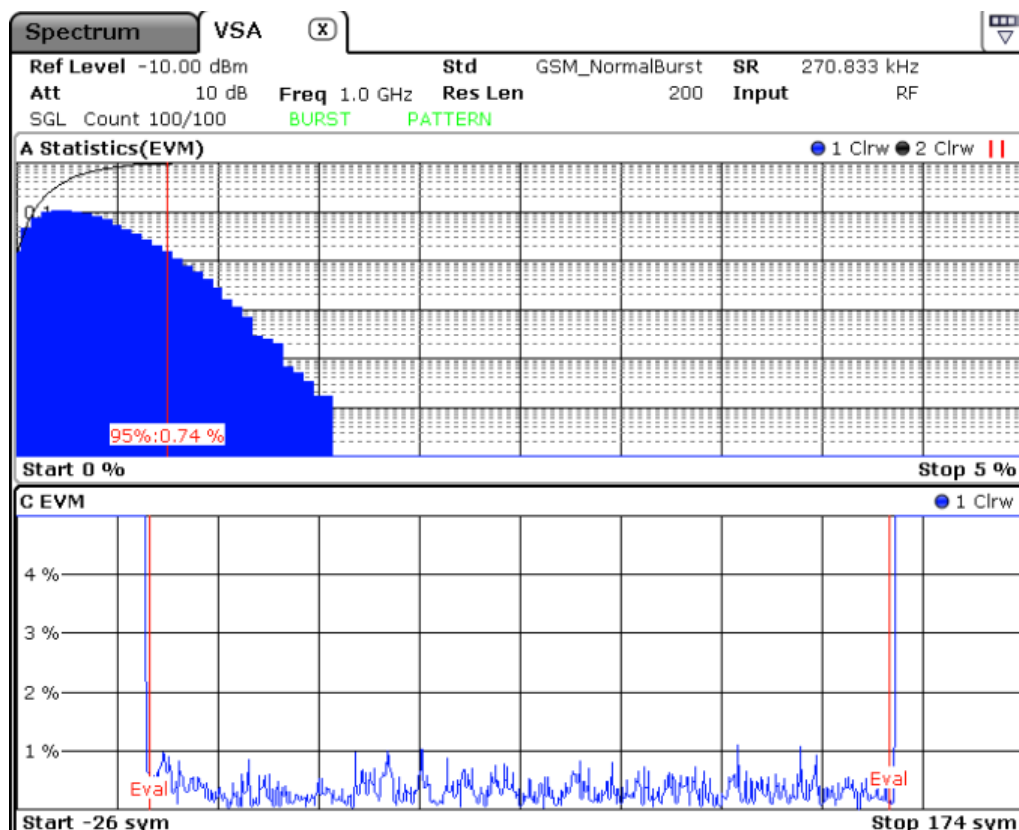

Fig. 3-21: Error vector magnitude (bottom), EVM distribution (top)
The figure 3-21 shows an example of a statistical evaluation. The lower window (C) shows the basic diagram (EVM), while the upper window (A) shows the associated distribution of the EVM.